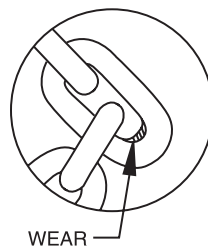
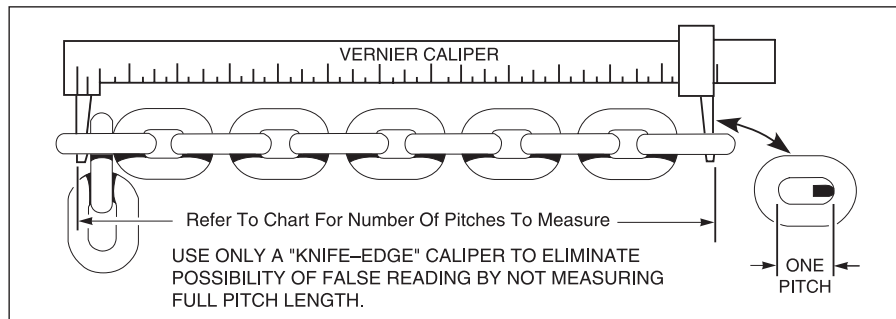

Figure 9– Check Chain Wear at Bearing Surfaces between Links
Figure 10– Checking Coil Chain Using Vernier Caliper
1. Coil type load chain. Clean chain for inspection. Examine visually for gouges, nicks, weld splatter, corrosion or distorted links. Slacken chain and check bearing surface between links for wear, Figure 9. Greatest wear will often occur at sprocket at high or low point of lift, particularly when hoist is subjected to repetitive lifting cycles. Case hardness of chain is approximately .015" deep. Chain must be replaced before the case is worn through. Also check chain for elongation using a vernier caliper (See Figure 10). Select an unused, unstretched section of chain (usually at the loose end). Suspend the chain vertically under tension and using a blade type caliper gauge, measure the outside length of any convenient number of links approximately 12" to 24". Measure the same number of links in the use sections and calculate the percentage in increased length. Replace if length of the used portion is more than 1 1/2% longer than the unused portion of the chain. Based upon ASME B30.16. Chain with excessively pitted, corroded, nicked, gouged, twisted or worn links should be replaced using only factory approved chain. Never weld or attempt to repair coil chain.